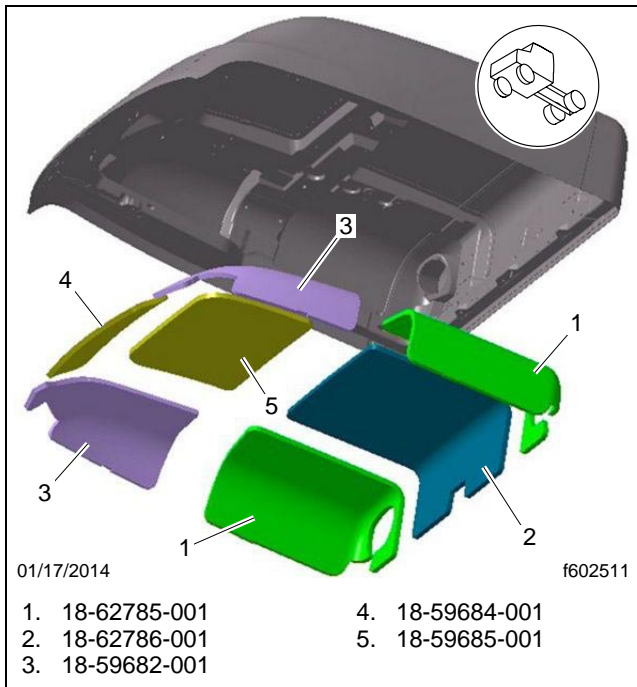

Fig. 7, 48-Inch XT Roof Cap Insulation Inserts
- See **Fig. 7** for 48-inch XT roof cap insulation inserts.